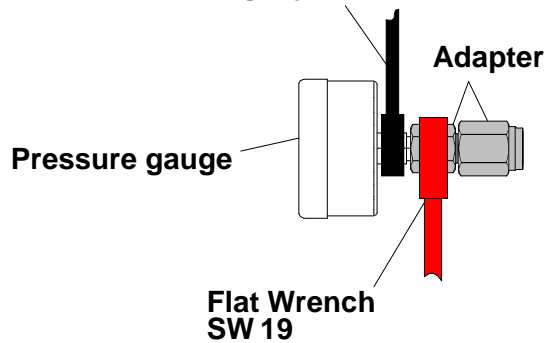

Figure 4-18. Pressure Gauge Untightening From Adapter
- To remove the adapter with the pressure gauge, use a flat wrench size SW 19 mm to hold the manifold adapter in position. Using a flat wrench size SW 11 mm or SW 14 mm to unscrew pressure gauge (in counter clockwise direction). See Figure 4-18.